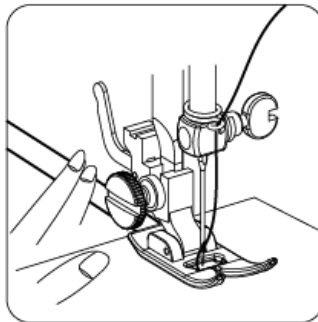

Fig.16
3. Lower down the presser foot. (Fig.16).